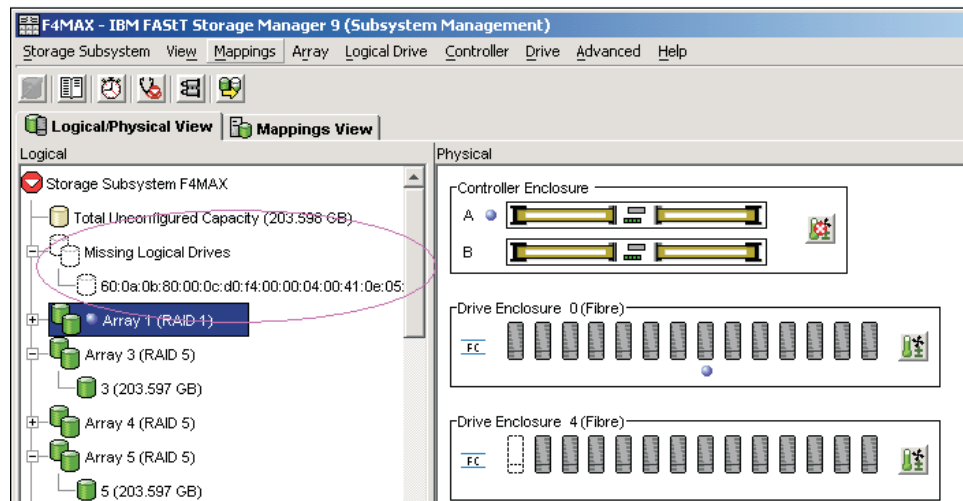

Figure 24. Subsystem Management Logical/Physical View of missing logical drives (controller firmware 7.xx.xx.xx or later)
**Note:** Figure 24 shows the array status as missing an array in subsystem because the array was not exported before the drives that made up the array were removed from the storage subsystem.